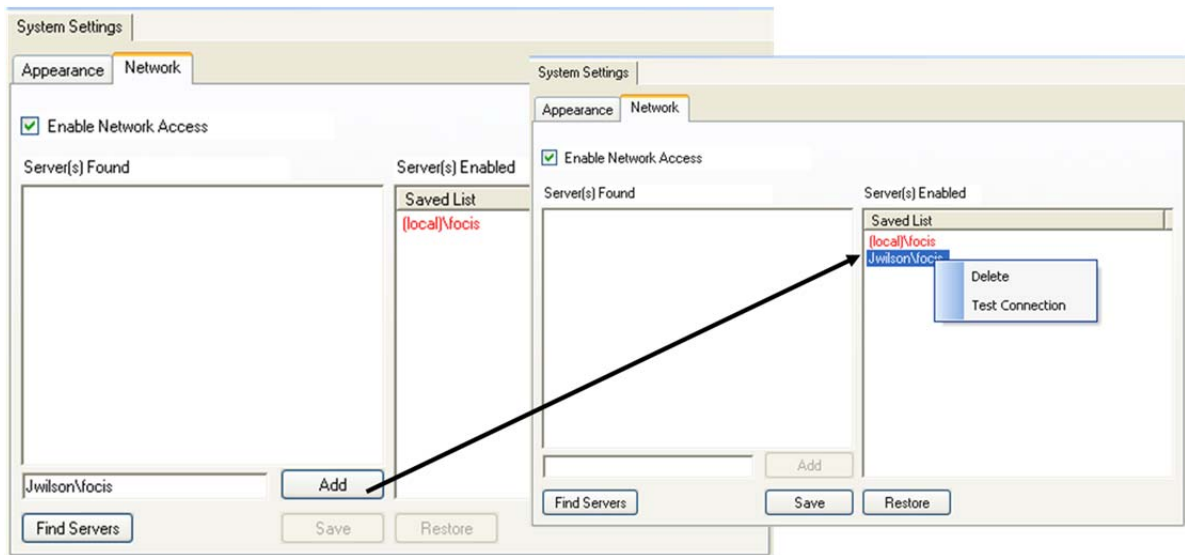

Figure III-22. Locating and Saving Hub Server Name
- a) Using the name of the Hub, type the name in the text entry area to the left of the **Add** button and click **Add** (Figure III-22) to add the Hub computer to the Server(s) Enabled Saved List box.